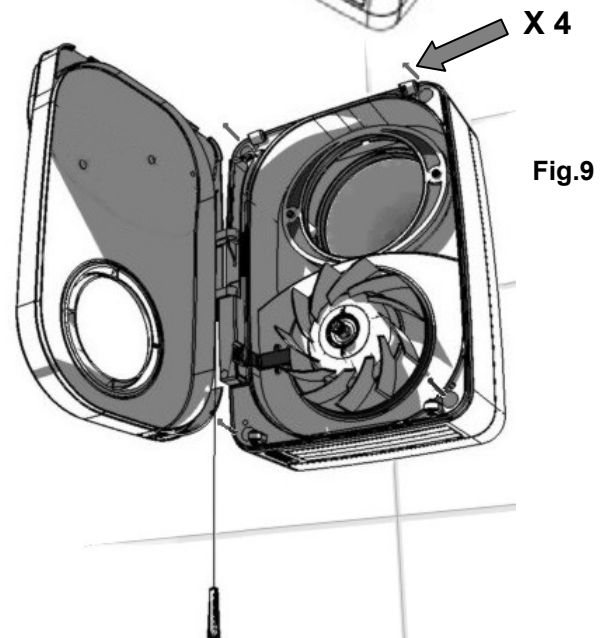

Fig.9
7) Fit Chassis to wall with 4 fixing screws carefully aligning the hole in the back of the Tempra with the Wall Pipe Fig 9.